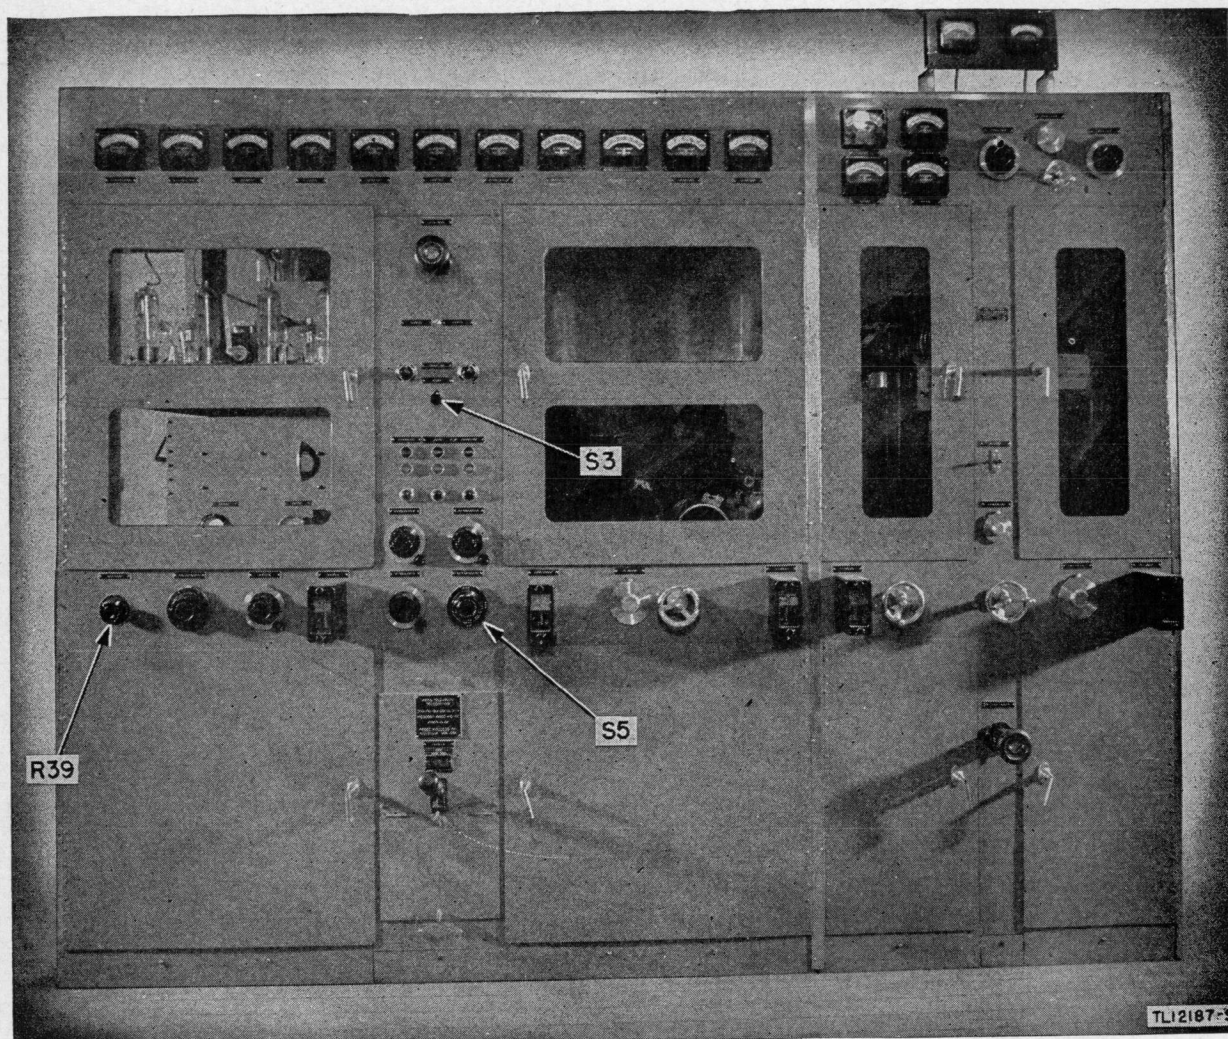

Figure 34. Transmitter, front view.
(m) Mask KEY SWITCH S3 (fig. 34, back of panel).
(n) Mask the contacts and contact arms of the MULTIPLIER SELECTOR switch S5 (fig. 34, back of panel).
(q) Mask the contact arm and contact surface of the keying shaper rheostat R39 (fig. 34, back of panel).
(6) Mask blades and jaws of main power switch. (See fig. 34, back panel.)